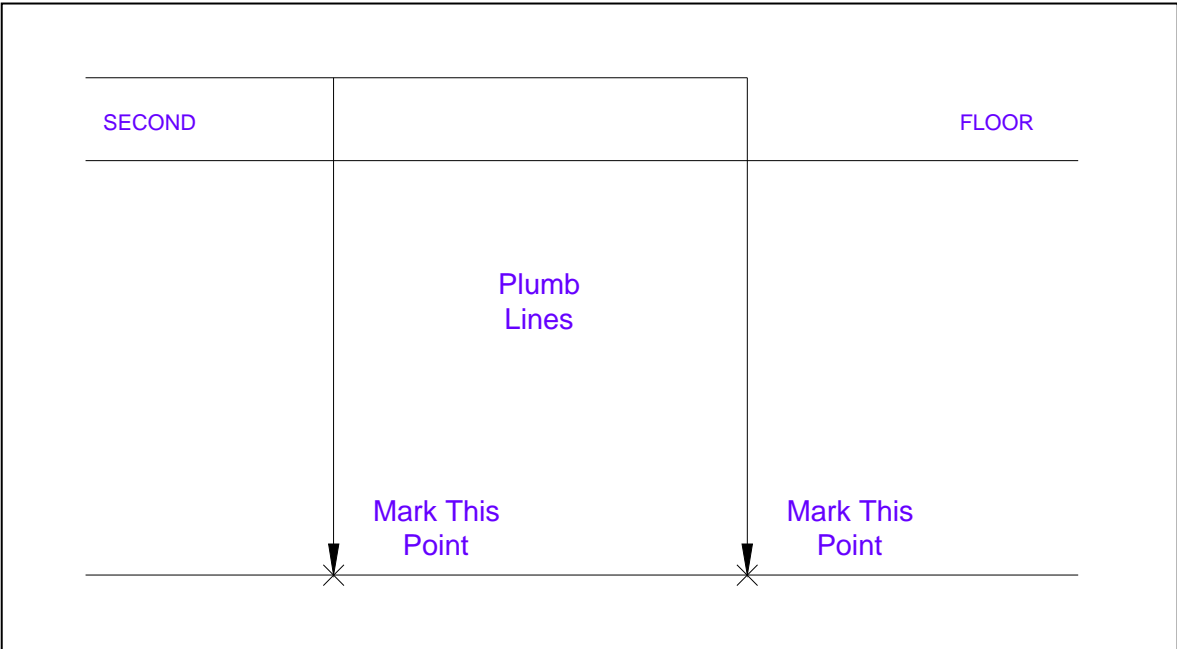

Figure 14 Locating Outside Edges of Carriage at the First Floor (Front View)
- c. **Figure 14** - Drop plumb lines from the upper level to the lower level using the two markings identifying the outside edges of the carriage platform. Again, the plumb line must be held 1” out from the edge of the mezzanine or opening at the second floor to provide adequate clearance.